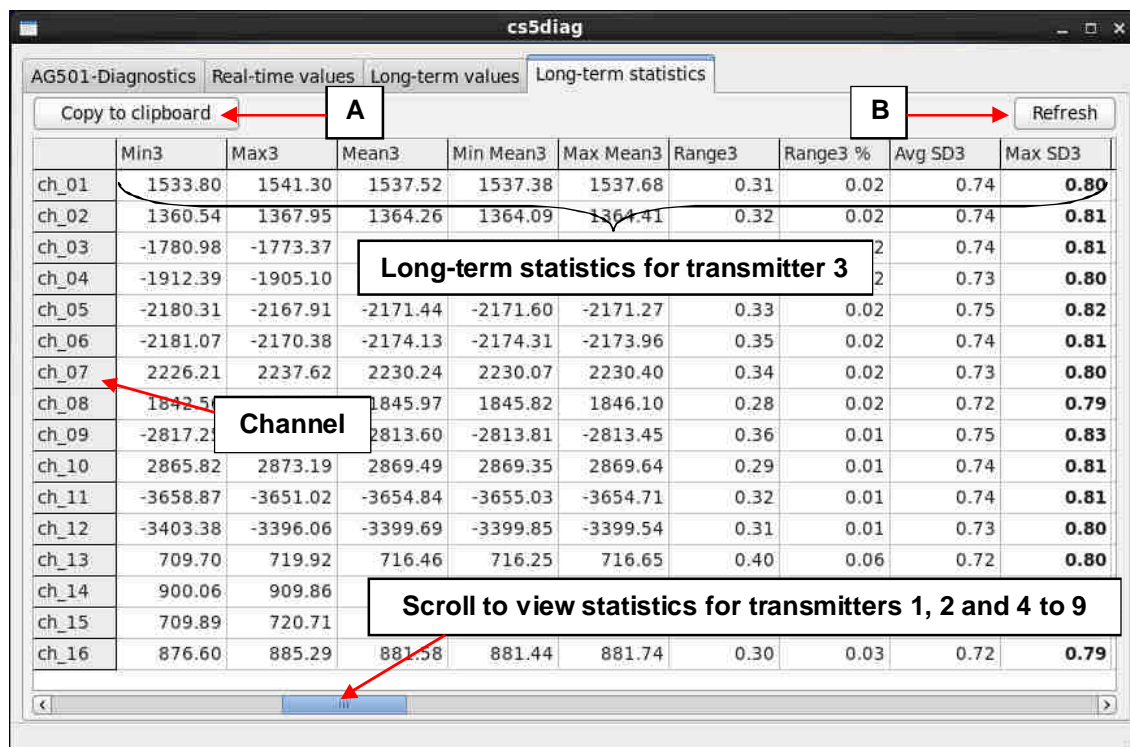

Figure 22: The Long-term statistics Tab
The Long-term statistics tab (Figure 22) contains the statistic values for the current long-term measurement for each transmitter and channel.
The values for the different transmitters (X) can be viewed by moving the scrollbar at the bottom of the table. During an active long-term measurement auto-refresh of the values can be toggled using the *Refresh*-button (Figure 22 B).
For further processing the statistic values can be copied to any spreadsheet program using the *Copy to clipboard*-button (Figure 22 A).